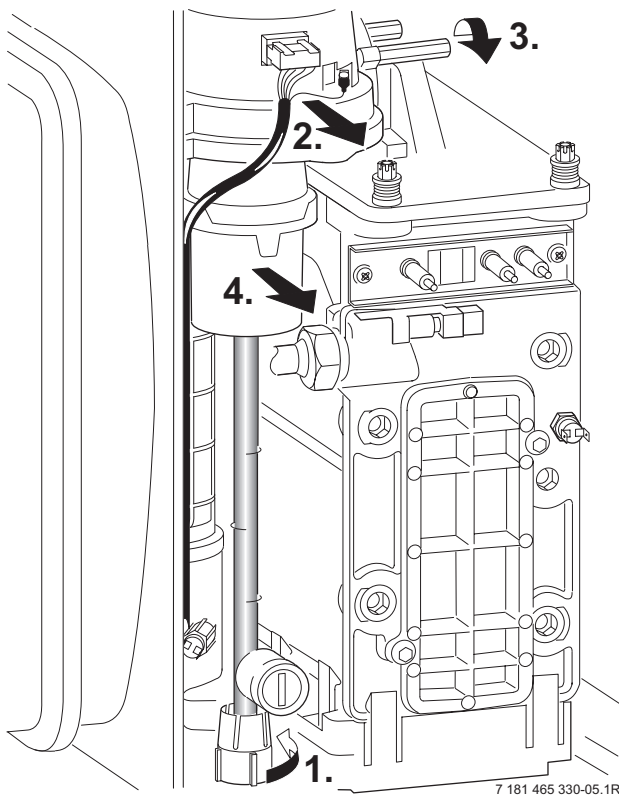

Fig. 61
- ▶ Undo lower pipe union on gas pipe (1.). Refer to fig. 61.
- ▶ Undo the union, within the inner casing, securing the valve to the gas/air tube. Refer to fig. 61.